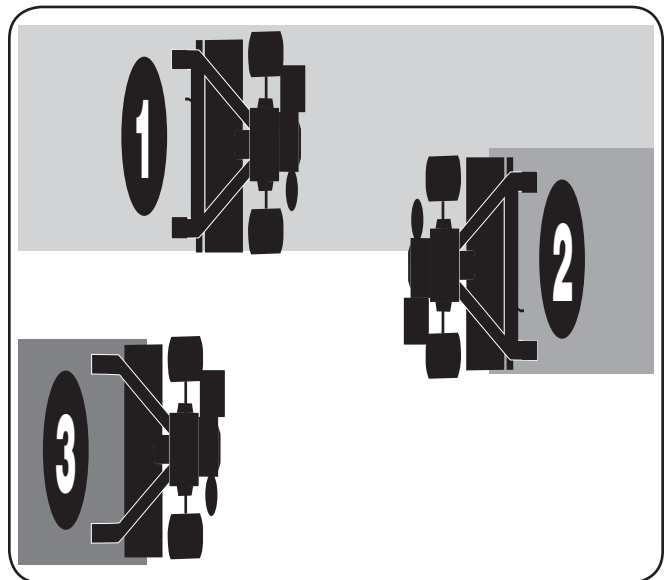

Figure 4-13
- If the garden size will not permit lengthwise and then crosswise tilling, then overlap the first passes by one-half a tiller width, followed by successive passes at one-quarter width. See Fig. 4-13.